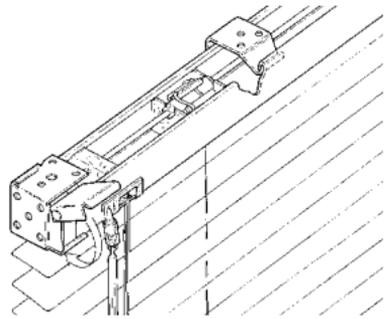

Figure D2
3. Hook the front edge of the headrail onto the lip of the center support bracket(s), if applicable. Insert the headrail into the end brackets, making sure that no cords or slats are in the way. (See Figure D2)